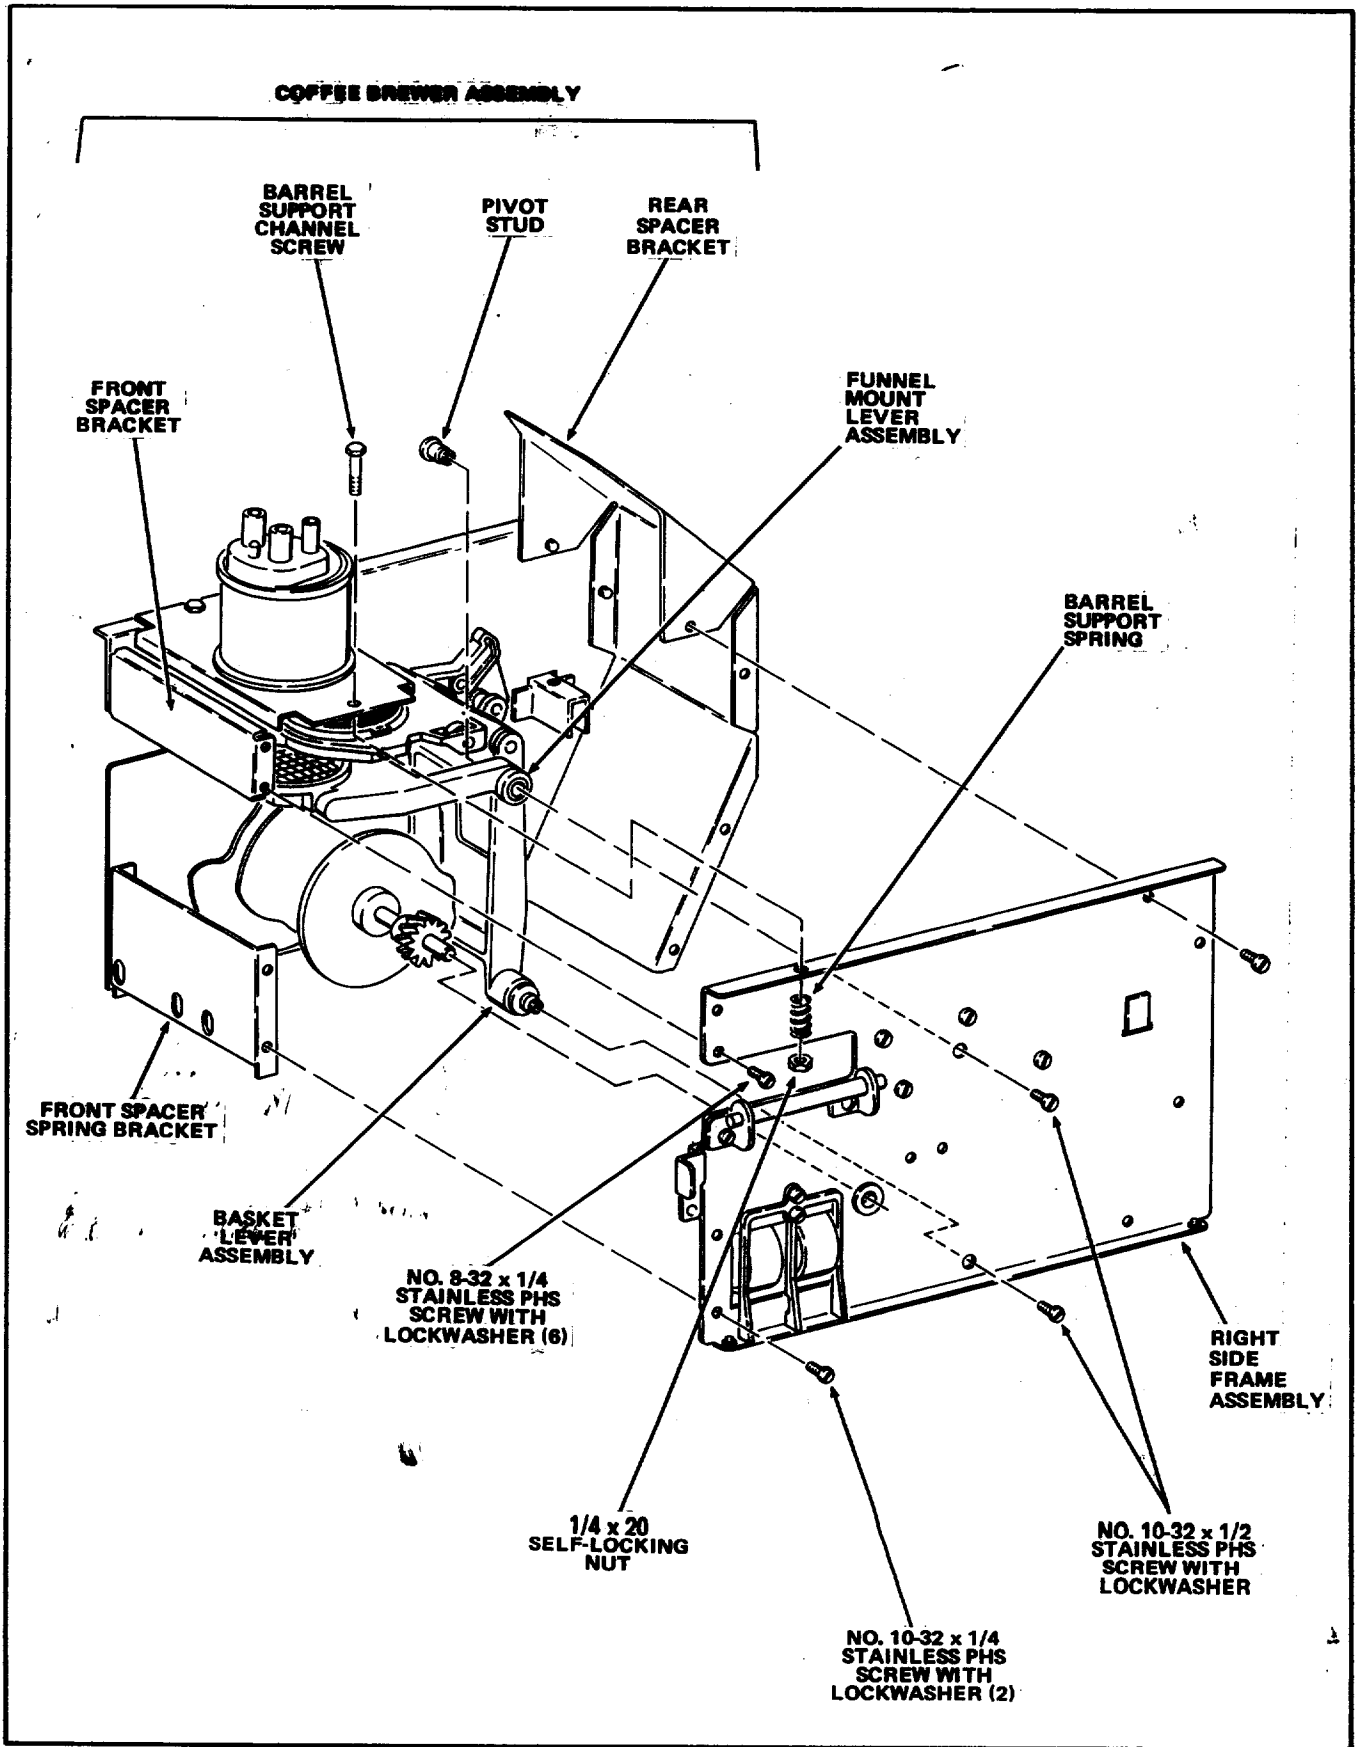

FIGURE 3
9. Remove the Coffee Brewer Assembly from the Merchandiser. See Figure 3.
10. Remove the 1/4 x 20 Self Locking Nut, Barrel Support Spring, and Barrel Support Channel Screw attaching the Barrel Support Channel to the Right Side Frame Assembly. See Figure 3.
11. Remove the No.10-32 x 1/2 Stainless Pan Head Screw with Lockwasher and Pivot Stud attaching the Funnel Mount Lever Assembly to the Right Side Frame Assembly. See Figure 3.
12. Remove a No.10-32 x 1/2 Stainless Pan Head Screw with Lockwasher attaching the Basket Lever Assembly to the Right Side Frame Assembly. See Figure 3.
13. Remove two No.10-32 x 1/4 Stainless Pan Head Screws with Lockwashers attaching the Front Spacer Bracket to the Right Side Frame Assembly. See Figure 3.
14. Remove two No.10-32 x 1/4 Stainless Pan Head Screws with Lockwashers attaching the Front Spacer Bracket to the Right Side Frame Assembly. See Figure 3.
15. Remove four No.10-32 x 1/4 Stainless Pan Head Screws with Lockwashers attaching the Rear Spacer Bracket to the Right Side Frame Assembly and remove the Right Side Frame Assembly from the Coffee Brewer Assembly. See Figure 3.